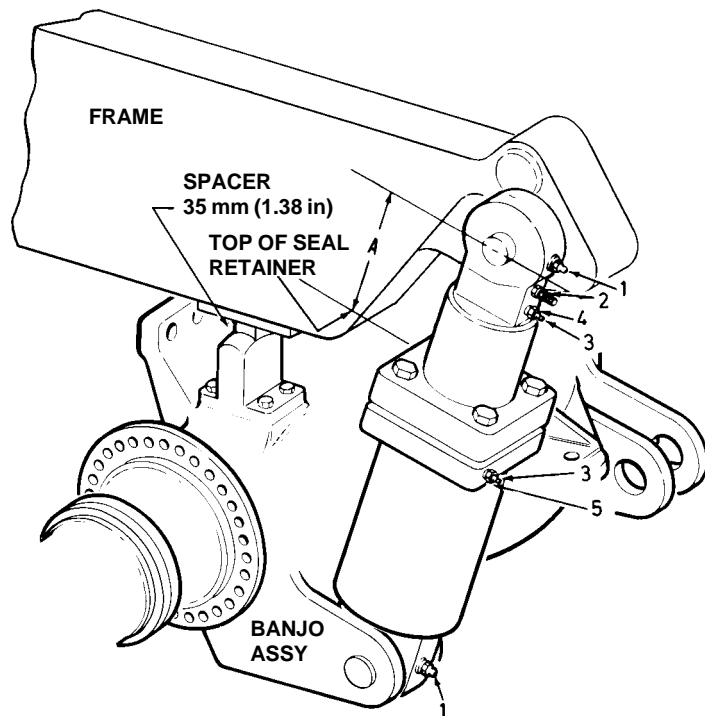

Fig. 5 - Typical Ride Cylinder Installation
2. Place a 35 mm (1.38 in) spacer on each oscillation stop to facilitate charging procedure, as shown in Fig. 5.
3. Remove cap from nitrogen charging valve (2) at top of ride cylinder. Turn hex nut on charging valve 1/4 to 1/2 turn anticlockwise and depress the valve core. If no gas escapes, continue to turn hex nut in 1/4 turn increments until nitrogen releases as the charging valve core is depressed.
2. With cylinder rod in its retracted position (except for the spacers on oscillation stops as shown in Fig. 5), fill the cylinder until oil flows free of air bubbles from check valve (4) port. It may be necessary to wait 30 or more minutes after nitrogen pressure has been released to clear the foam which has formed inside the cylinder. Screw in check valve (4) and close bleed valve with pipe plug (3). Remove nitrogen charging valve (2) from cylinder rod. Continue filling the cylinder with oil through check valve (5) port until it flows free of air bubbles, from nitrogen charging valve (2) port.
3. Remove oil fill equipment, reinstall plug (3) in check valve (5) and reinstall nitrogen charging valve (2) in its port.
Note: Cylinder height 'A' shown in Fig. 5 is intended to be for REFERENCE only. Cylinders should be charged according to the pressure chart below and NOT solely on the basis of monitoring cylinder height.
Note: On new or rebuilt cylinders, the seals and wipers may grip the piston rods tighter and make it difficult to obtain the correct height shown in Fig. 5. If this happens, the cylinders should be charged as accurately as possible, the vehicle operated for several days, and then the cylinder re-checked.